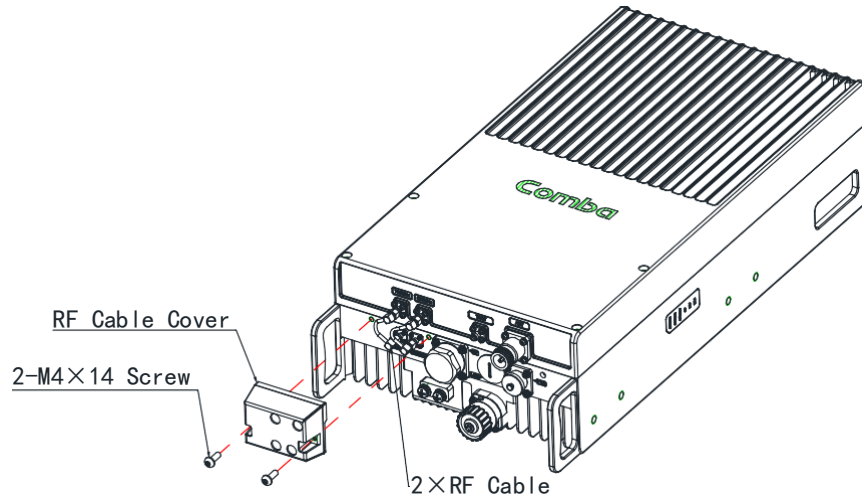

Figure 10 Remove RF Cable Cover
Step1: Unscrew the two M4x14 screws, remove the RF Cable Cover, and use a wrench to unscrew the two RF cables, as shown in Figure 10.